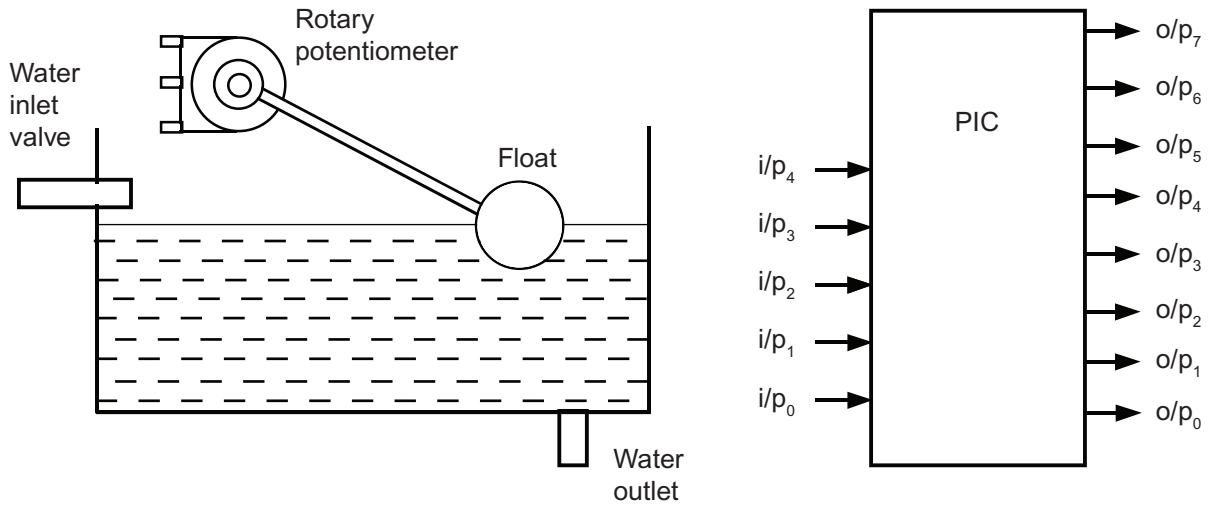

Fig. 2(c)
- (i) The input ports on the PIC shown in **Fig. 2(c)** can function as either digital or analogue inputs. Briefly explain the difference between these two types of input. [2]
- (ii) The voltage range of the analogue port on the PIC shown in **Fig. 2(c)** is from 0V to 6V with a corresponding digital range from 0 to 255. Using electronic circuit diagrams on the blank pro forma provided (answer number **2(c)(ii)**), design a circuit based on the float system and PIC shown in **Fig. 2(c)** and write a flow chart program to fulfil the following: